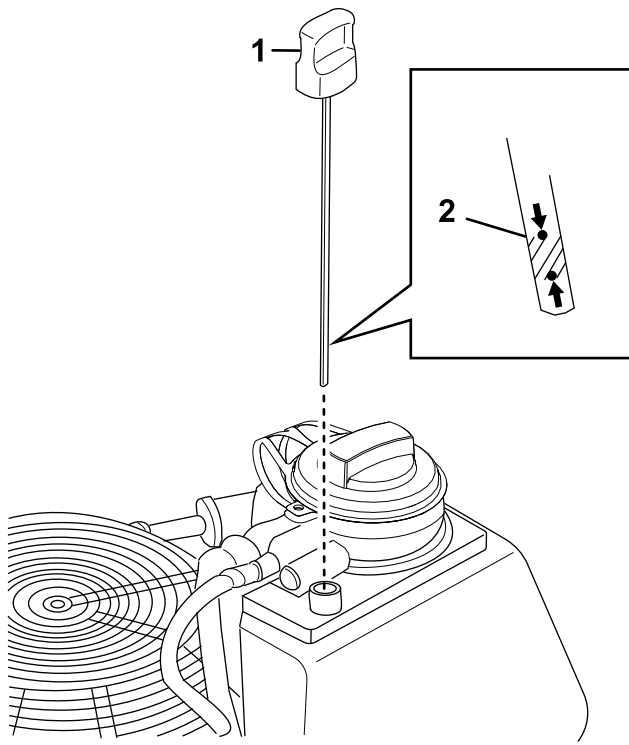

Figure 44
4. Remove the dipstick and wipe it clean (Figure 44).
The oil should be at the full-level indicator on the dipstick (Figure 44).